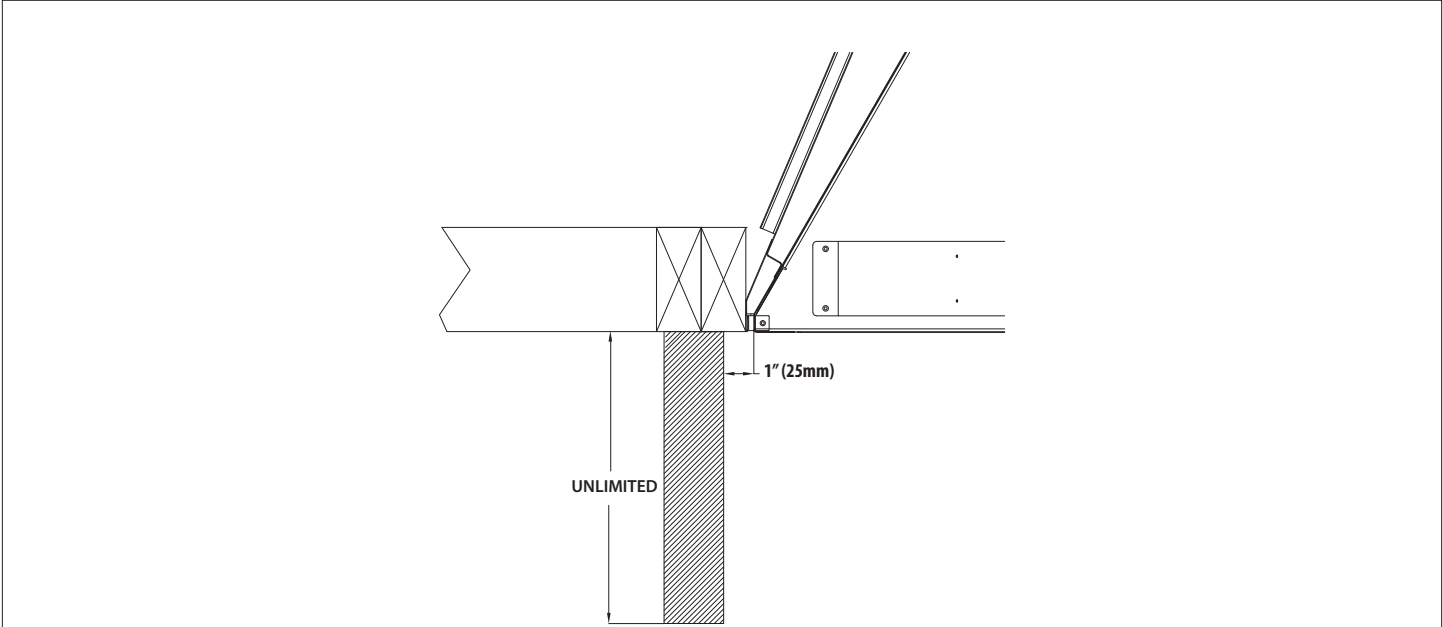

Figure 4.3, Sidewall Clearance
- The adjacent sidewall must be 1" (25mm) from the finishing edge of the fireplace. See Figure 4.3 (page 20).